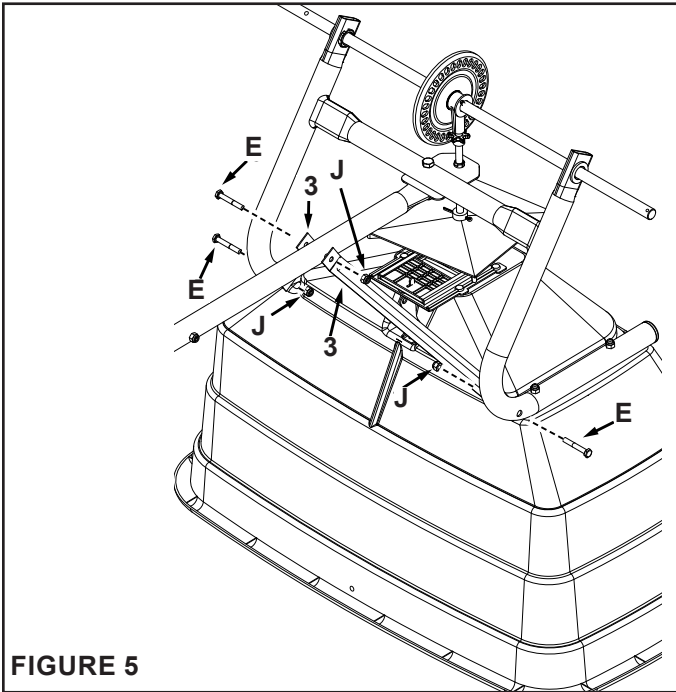

FIGURE 5
STEP 5: (SEE FIGURE 5)
- Attach the hitch braces (3) to the frame using two 1/4" X 1-3/4" bolts (E) and 1/4" nuts (J). Attach the hitch braces to the hitch tube using one 1/4" X 1-3/4" bolt (E) and 1/4" nut (J). See figure 5.